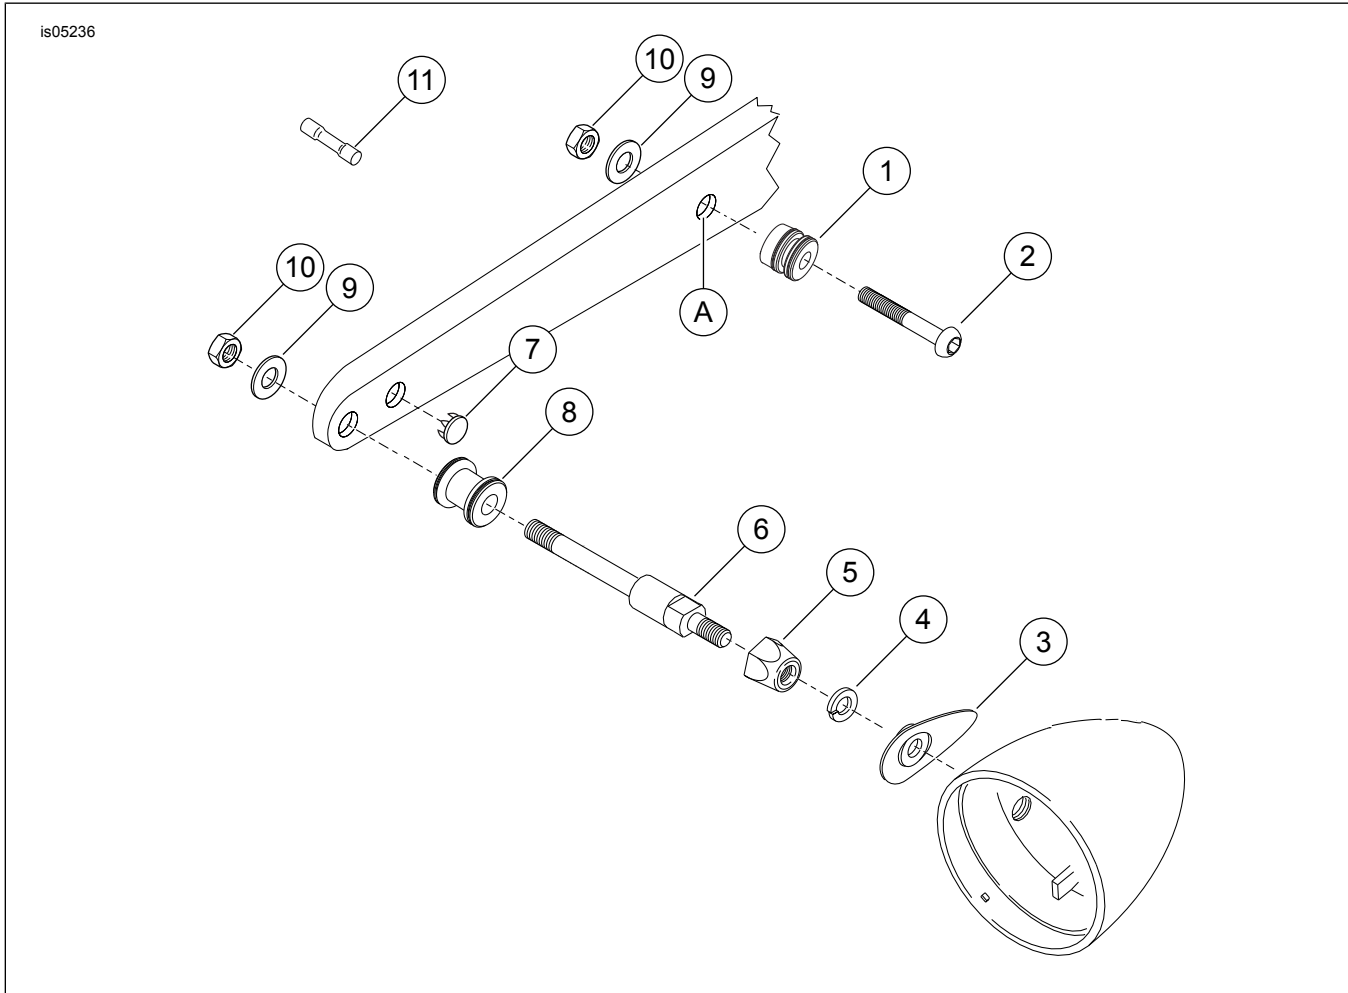

Figure 3. Service Parts: Hardware Docking Kit
See Figure 3 and Table 1.
3. See Figure 3 and Table 1. Remove the stock center bolt from location (A) and flanged lock nut from the fender support.
4. Keep the countersunk side of the front docking point (1) facing toward the fender support. Insert button head bolt (2) through the docking point, fender support and fender. Install flat washer (9) and locknut (10) to the inside of the fender. Tighten to 16.3–24.4 N·m (12–18 ft-lbs).
1. See Figure 3. Place the rear docking point (8) over the long threaded end of the new turn signal stalk (6) with the countersunk side facing the fender support.
3. Fasten a flat washer (9) and locknut (10) from the kit onto the turn signal stalk on the inside of the fender. With a wrench on the stalk's wrench flats, tighten the locknut to 16.3–24.4 N·m (12–18 ft-lbs).
4. Loosely install a jam nut (5), followed by a lock washer (4) onto the short threaded end of the turn signal stalk.
5. Place the recess cover (3) into position over the recess on the turn signal housing. Insert the wires from the reflector through the grommet into the turn signal housing, through the threaded hole and the recess cover, and into the turn signal stalk.